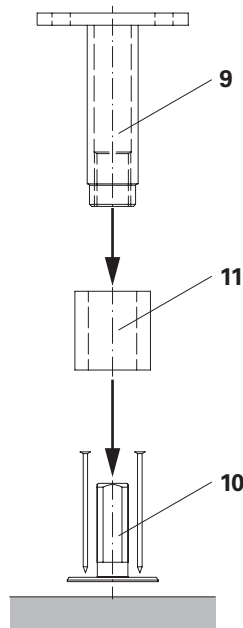

Fig. A3.02
1. Mount Anchor Positioning Stud M24 (10) on the formwork panel by means of 4x wire nails 3 x 80. (Fig. A3.02)